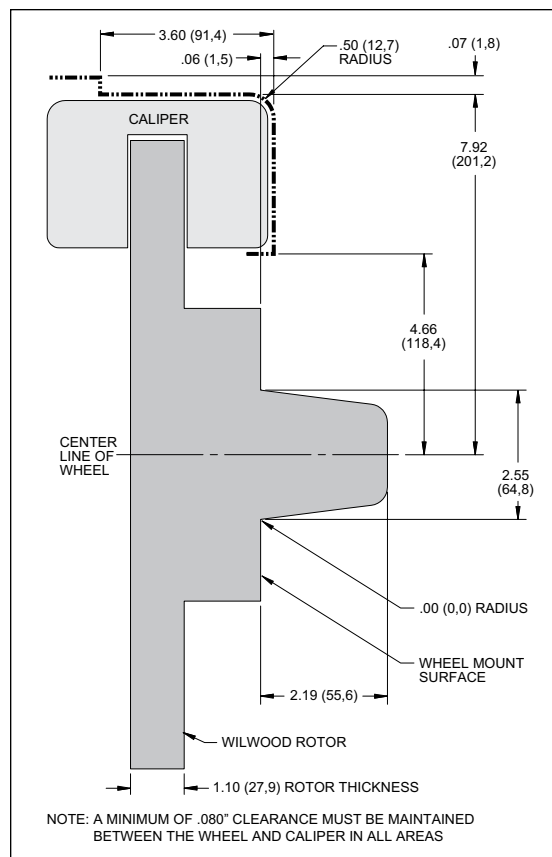

Figure 2. Wheel Clearance Diagram
- Review the wheel clearance diagram (Figure 2, page 4) to verify that there is adequate clearance with the wheels you will be using with the installation.
- Verify your wheel clearance using Figure 2.
- The TCI spindles should include the following TCI supplied parts. If any of these parts are missing, contact TCI directly at (855) 693-1259.